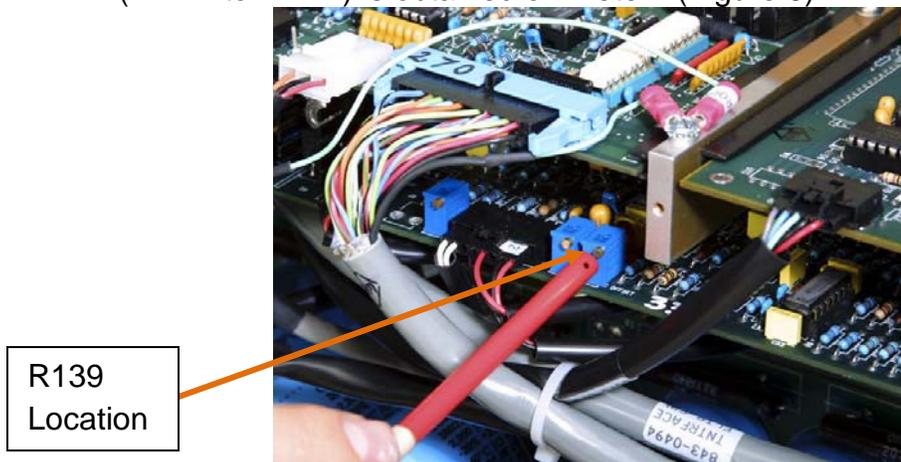

Fig. 6 – Trimpot R139 is used to adjust voltage at TP8
3.1.7 Adjust **R139** (Demand Offset) until a reading in the range of (-2 mV to +2mV) is obtained on meter. (Figure 6)